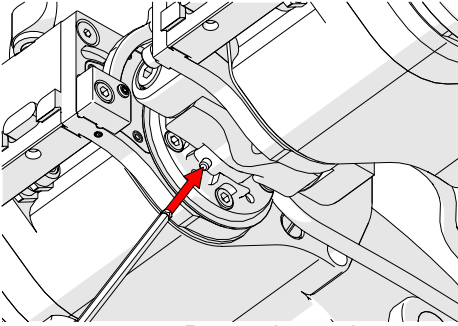
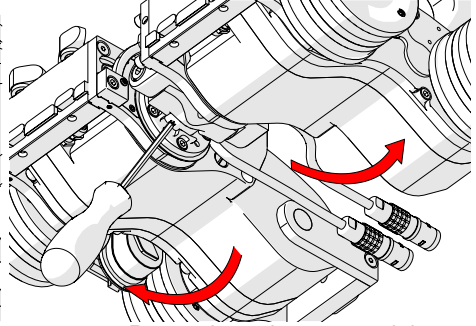

Fig. 98 - Press release pin
Fig. 99 - Press pin and rotate modules
1. Locate the release pin at the bottom of the **NAVIC** (Fig. 98). Using the supplied 3 mm hex driver, press the pin while rotating the two modules (Fig. 99).